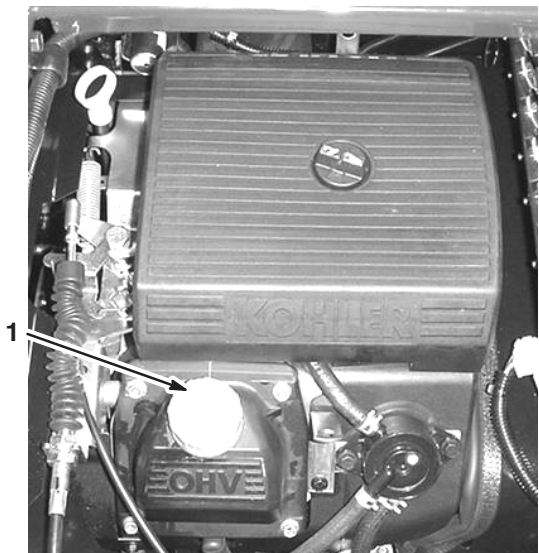

Figure 35
- Slowly pour approximately 80% of the specified amount of oil into the oil filler tube (Fig. 35).